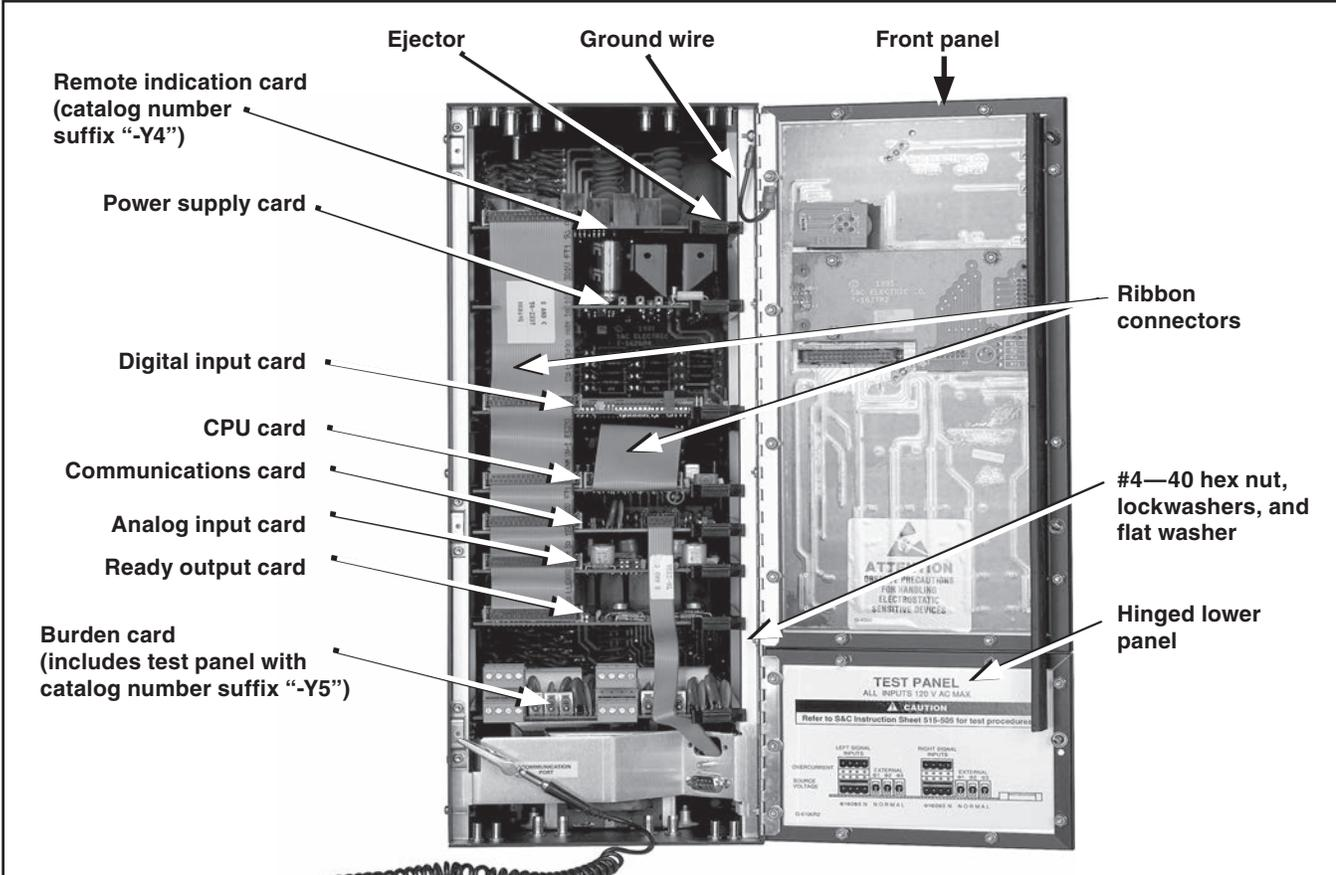

Figure 3. Layout of circuit cards in the Micro-AT Source-Transfer Control.
- (a) Carefully detach the ribbon connector plugs from their receptacles on the three lowest circuit cards. Also detach the ribbon connector plug connecting the front panel assembly to the CPU card. See Figure 3 on page 8.
(b) Carefully detach the ribbon connector plugs from their receptacles on the three lowest circuit cards. Also detach the ribbon connector plug connecting the front panel assembly to the CPU card. See Figure 3 on page 8.
- STEP 1.** Carefully detach the ribbon connector plugs from their receptacles on the three highest circuit cards. Also detach the ribbon connector plug connecting the front panel assembly to the CPU card. See Figure 3 on page 8.
- STEP 2.** Pull the ejector on the right edge of the CPU card to withdraw the CPU card connector from the receptacle in the source-transfer control enclosure. See Figure 3 on page 8. Then, place the CPU card on the static-dissipative work mat.
- (a) Carefully detach the ribbon connector plugs from their receptacles on the three lowest circuit cards. Also, detach the ribbon connector plug connecting the front panel assembly to the CPU card. See Figure 3 on page 8.